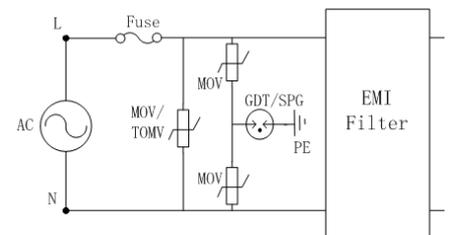

Figure 1: Common and differential protection mode of AC supply
1. On the AC power supply panel, Metal Oxide Varistor (MOV) or combined with Gas Discharge Tubes (GDT/SPG) can be used to protect the circuit. As illustrated in Figure 1, when the AC supply is grounded to PE, common mode and differential mode protection should be adapted at the same time to form the protection circuit. The Varistor connected between L-N can clamp differential mode over-voltage effectively and thus protect the circuit from been damaged.